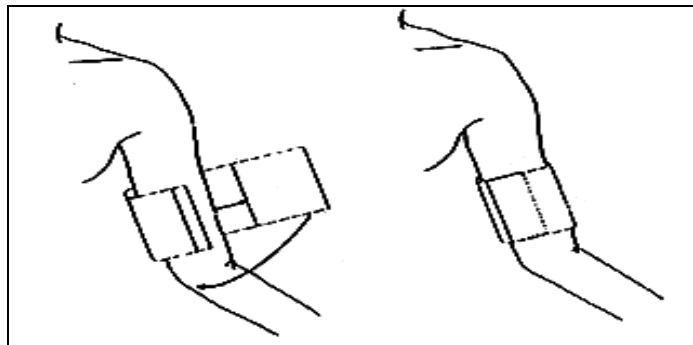

FIGURE 2-36 Application of the Blood Pressure Cuff
4. Apply the cuff to the patient as shown in FIGURE 2-36. To reduce errors, ensure that the cuff is deflated and lies directly against the patient's skin. The cuff should fit snugly. There should be no clothing between the patient's skin and the cuff.